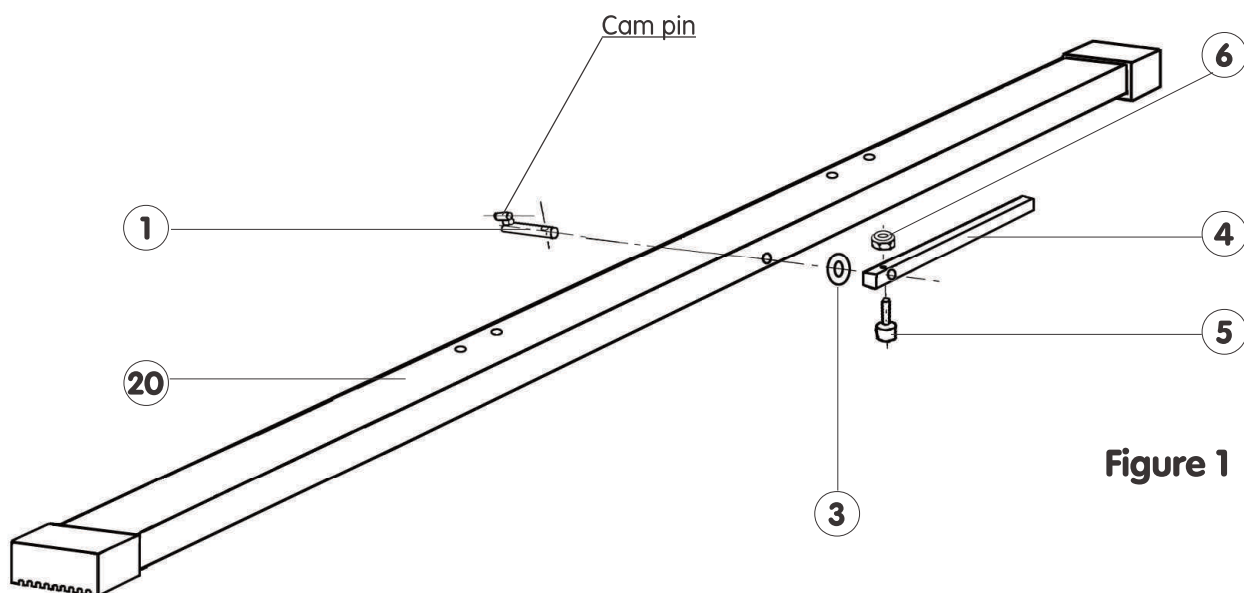

Figure 1
- 1 - Insert each cam (1), into the hole of each leg (20). Insert one thrust washer (3), then the lever (4) horizontally onto the cam (1) as shown by **Figure 1**.
- 2 - Lock the assembly by inserting the screw (5) through the lever (4) and the cam (1), then fully tighten the assembly using the nut (6) (see **Fig. 1**).